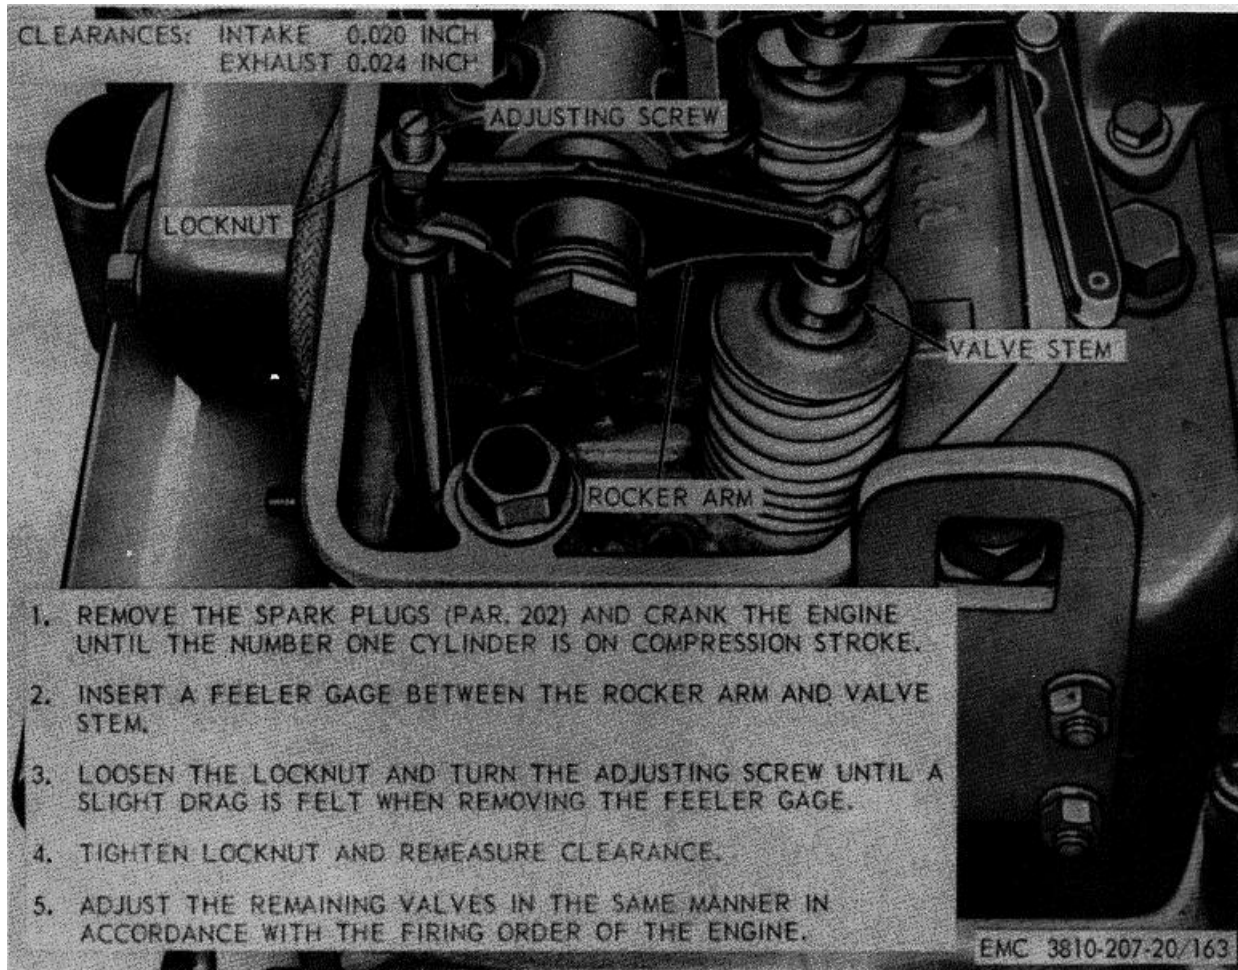

Figure 163. Valve clearance, adjustment.
b. Adjust the intake and exhaust valve clearances as instructed on figure 163.